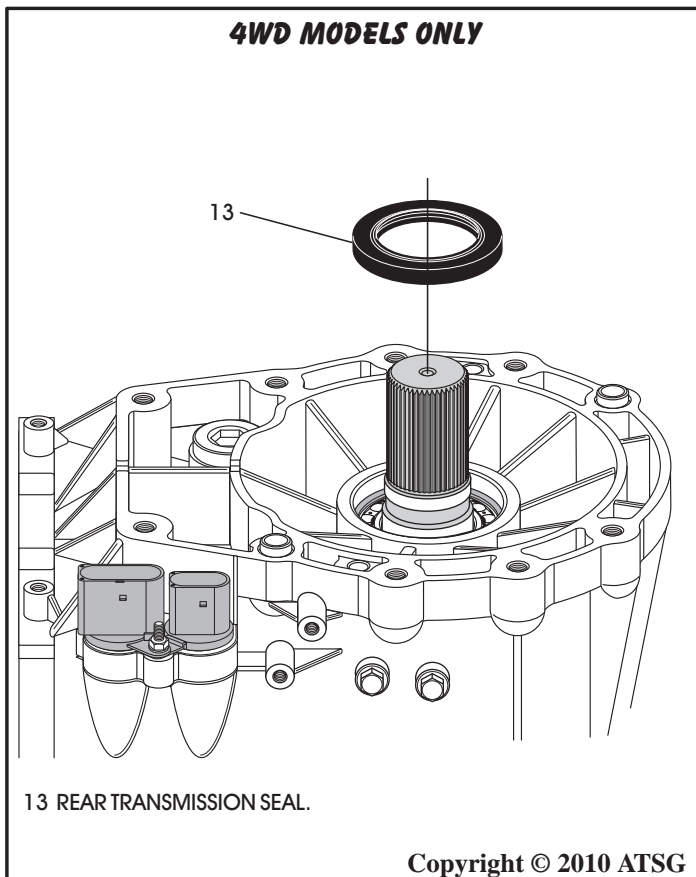

Figure 239
72. If you are working on a 4WD version you should have already installed the rear seal during case component assembly. If not, install the rear seal as shown in Figure 239.